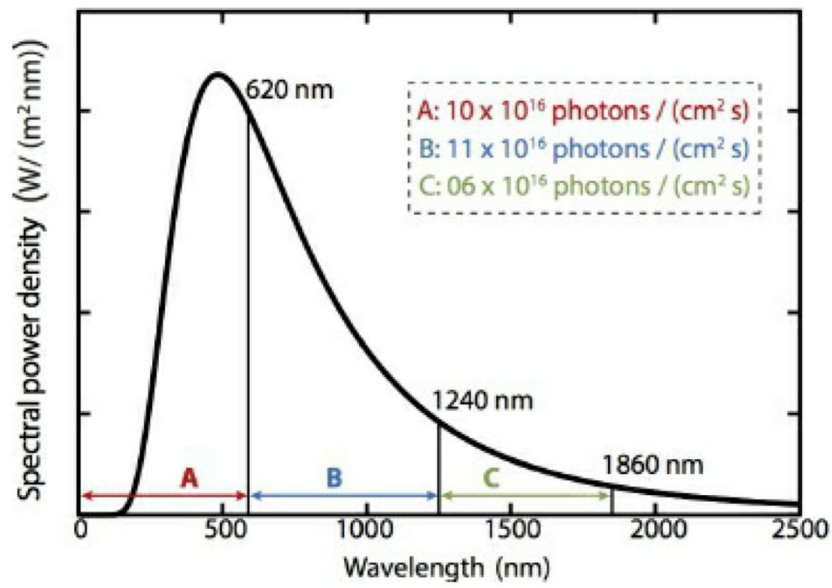
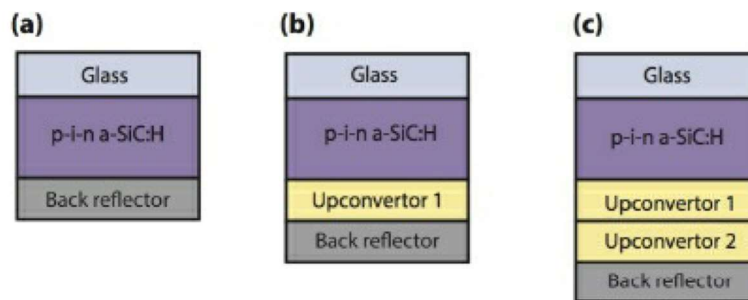

Figure 3: Solar spectrum
Figure 4: Solar cell configurations
Figure 3 shows a simplified AM1.5 solar spectrum with a total irradiance of 1000 W/m2. The spectrum is divided into three spectral ranges,
Hydrogenated silicon carbide (a-SiC:H) is a type of amorphous semiconductor material that has been recently studied for PV applications. This material has a relatively large bandgap of 2.0 eV. Imagine we integrate this material in a single junction *p-i-n* solar cell as shown in Figure 4 (a).
- An upconverter is a material that can convert two low energy photons into a higher energy photon. Placing an upconverter in our solar cell can help to reduce the spectral mismatch, since it can convert some photons with energy lower than 2 eV, which are not absorbed by the a-SiC:H cell, into photons with energy higher than 2 eV. Figure 4 (b) depicts this possibility. In the upconverter 1, two photons are converted into one photon with 100% conversion efficiency. If all photons with energy above that of the bandgap of a-SiC:H are absorbed in the a-SiC:H layer, in which spectral range from Figure 3 can the photons be upconverted so that they contribute to the current in the cell as well? A, B, or C?
- In that case what would be the short-circuit current density and the efficiency of the solar cell illustrated in Figure 4(b)? Assume again that 65% of the absorbed photons result in a current.
- Now imagine that in upconverter 2, three photons are converted into one photon with 100% conversion efficiency, as illustrated in Figure 4 (c). If all photons with energy above that of the bandgap of a-SiC:H are absorbed in the p-i-n cell, and converter 1 absorbs only the photons in the spectral range determined above, in which spectral part can the photons be upconverted by converter 2 so that they contribute to the current in the cell as well? A, B, or C?
- In that case what would be the short circuit current density and the efficiency of the solar cell illustrated in Figure 4 (c)? Assume that 65% of the absorbed photons result in a current.